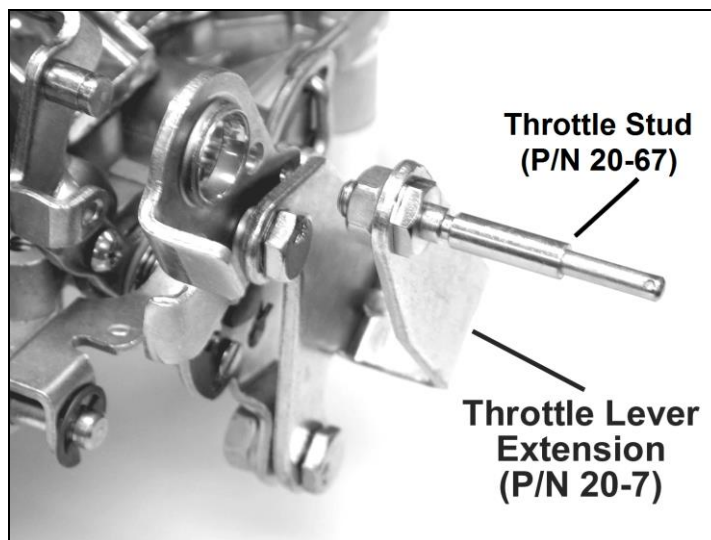

Figure 1—Chrysler applications
- 1. Unless you are replacing an existing Holley® carburetor (which already has a lever extension arm), you may need to purchase and install a throttle lever extension (Holley® P/N 20-7) on the carburetor. Remove the throttle stud and nut from the original carburetor. You can purchase a new stud from your Holley® dealer (Holley® P/N 20-67). Install the stud in the throttle lever extension (Figure 1). See the appropriate service manual for transmission adjustment.